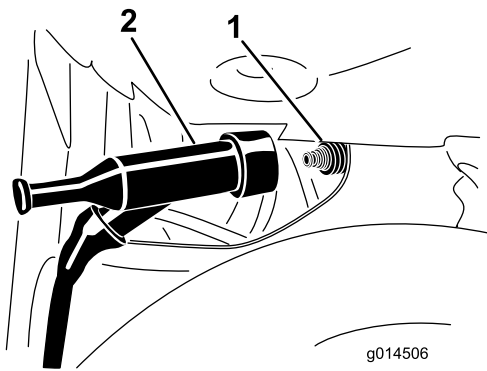

Figure 36
2. Pull the spark-plug wire off the terminal of the spark plug (Figure 36).
4. Push the spark-plug wire onto the terminal of the spark plug (Figure 36).